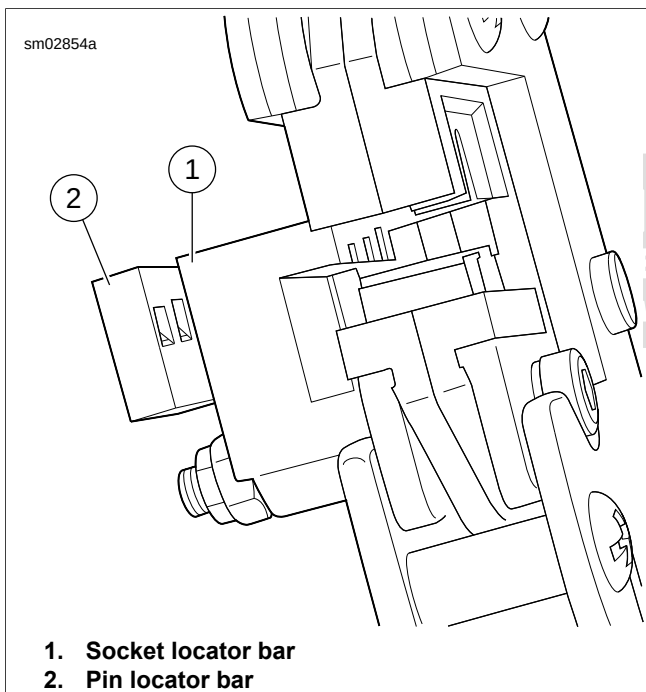

**Figure A-51. Open Terminal Crimper (HD-48119) at 45 Degrees**
3. See Figure A-51. Hold fully open tool at approximately 45 degrees.